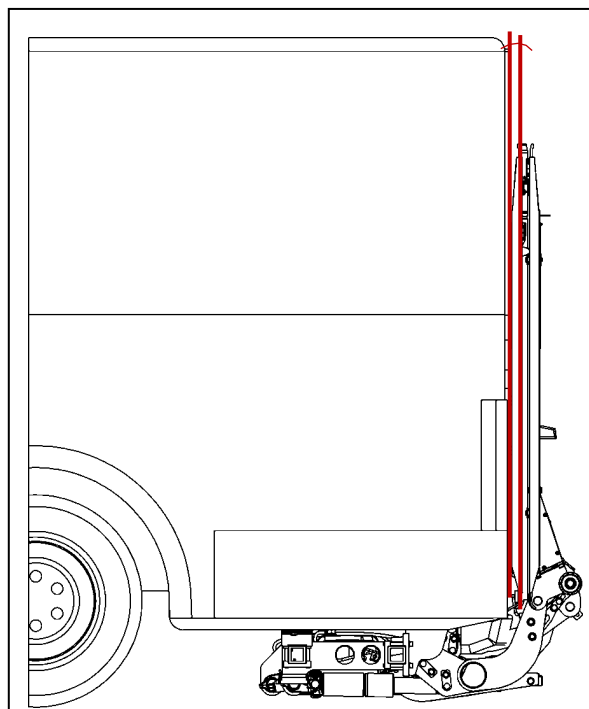

Figure 82
- Hydraulically close the platform until not quite vertical, leaving it open 3° to 4° (see Fig. 82).